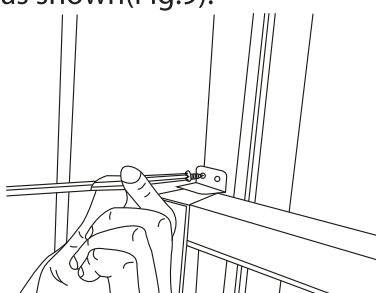

Fig.9
C. To secure lower sash in place, attach right angle sash lock with 3/4" (19mm) or 1/2" (12.7mm) screw as shown(Fig.9).